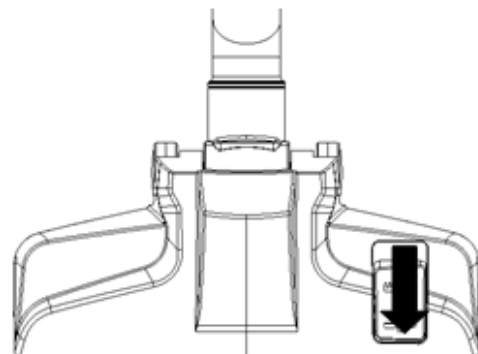

Fig.14
4. As in fig.14, tread on the pedal of the brush tool again to put the bristles in, and you can clean the carpet.